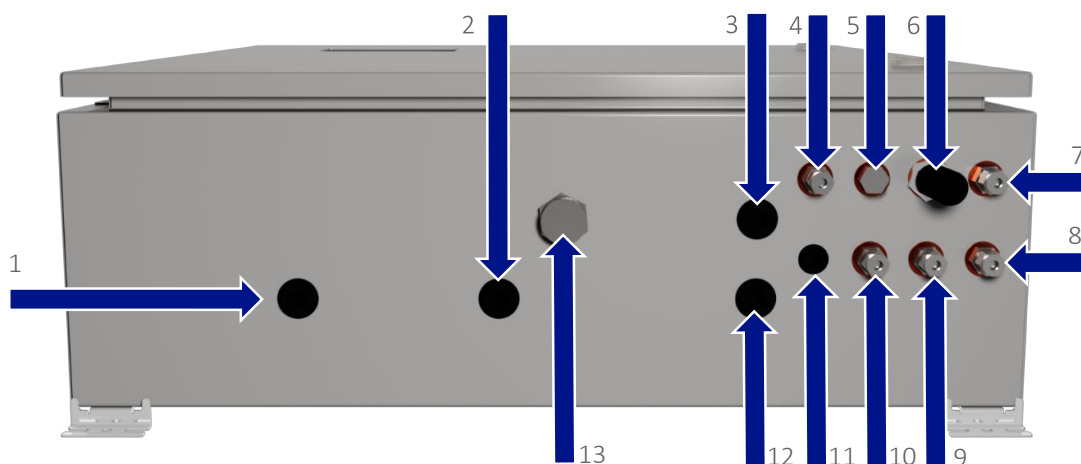
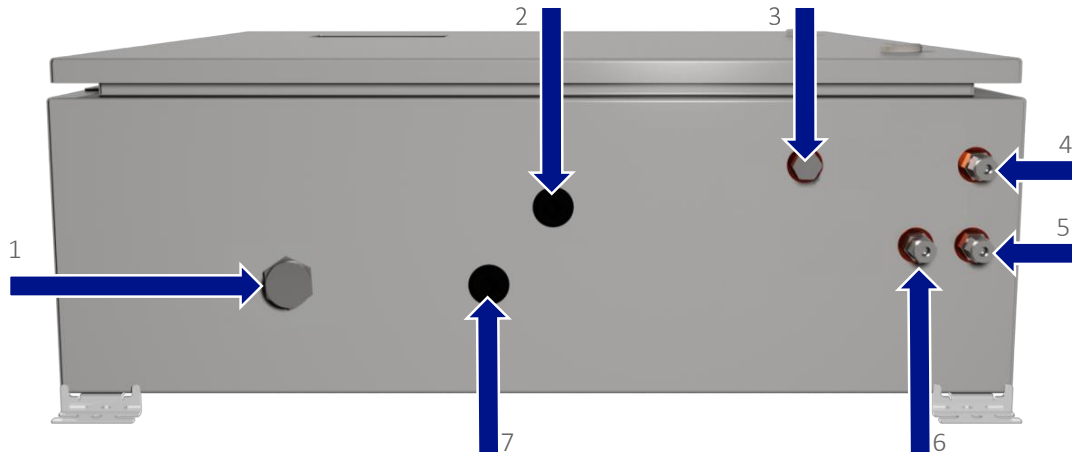

Figure 4 - BIOMETHANE 3000 customer connections
Figure 5 – Auto-calibration customer connections
- Compression fittings – found on the bulkheads on the enclosure base (see annotations 4, 5, and 7-11 on Figure 4 - BIOMETHANE 3000 customer connections and annotation 4-6 on Figure 5 – Auto-calibration customer connections).
There is an enclosure breather fitted to the BIOMETHANE 3000 situated at the base of the enclosure (see annotation 13 on Figure 4 - BIOMETHANE 3000 customer connections). It is the user's responsibility to ensure that there is a free circulation of air around the cabinet.
There are two enclosure breathers fitted to the auto-calibration system, situated at the base of the enclosure (see annotation 1 on Figure 5 – Auto-calibration customer connections) and the right hand side of the enclosure. It is the user's responsibility to ensure that there is a free circulation of air around the cabinet.
The installation will require the operator to connect a mains cable, output cable, relay cable, pressure transducer cable, drain, and gas pipes to the equipment. Figure 4 - BIOMETHANE 3000 customer connections identifies the available connection points on the BIOMETHANE 3000:
- The sample tube should be connected to the bulkhead connector labelled 'SAMPLE GAS 1' – see annotation 4 on Figure 4 - BIOMETHANE 3000 customer connections.
- The gas exhaust line should be connected to the bulkhead connector labelled 'PROCESS RETURN' – see annotation 7 on Figure 4 - BIOMETHANE 3000 customer connections.
- The sample tube should be connected to the bulkhead connector labelled 'AUTO-CAL IN' – see annotation 10 on Figure 4 - BIOMETHANE 3000 customer connections.
If uncontaminated air cannot be guaranteed at the location of the analyzer, the particulate filter should be removed and a pipe should be connected in its place and terminated at a point where uncontaminated air is present. The sample tube should be connected to the bulkhead connector labelled 'AIR IN' – see annotation 6 on Figure 4 - BIOMETHANE 3000 customer connections.
- The sample tube should be connected to the bulkhead connector labelled 'VENT TO ATMOSPHERE' – see annotation 9 on Figure 4 - BIOMETHANE 3000 customer connections.
- The drain line should be connected to the bulkhead connector labelled 'DRAIN' – see annotation 8 on Figure 4 - BIOMETHANE 3000 customer connections.
- The gas line will need routing from the gas bottle regulator to the auto-calibration system, connected to the bulkhead connector labelled 'CALIBRATION GAS IN' – see annotation 3 on Figure 5 – Auto-calibration customer connections.
- The gas line will need connecting to the bulkhead connector labelled 'CALIBRATION GAS OUT' – see annotations 6 on Figure 5 – Auto-calibration customer connections.
- The gas lines will need connecting to the bulkhead connectors labelled 'VENT (HIGH PRESSURE)' and 'VENT (LOW PRESSURE)' – see annotations 5 and 4 respectively on Figure 5 – Auto-calibration customer connections.